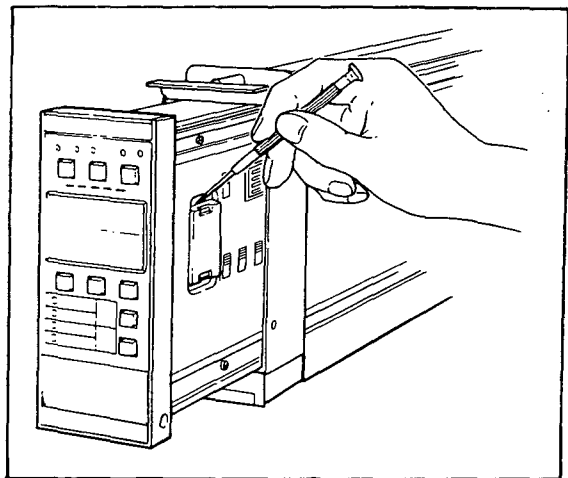

Figure 6-3-1. Removing Battery Cover.
- (1) Draw out the controller module a little from the housing, and remove the battery cover and battery. (See Figures 6-3-1 and 6-3-2.)
- (2) Install a new battery, and fit the battery cover securely.
- (3) Make sure that the ALM lamp on the front panel has stopped flashing.